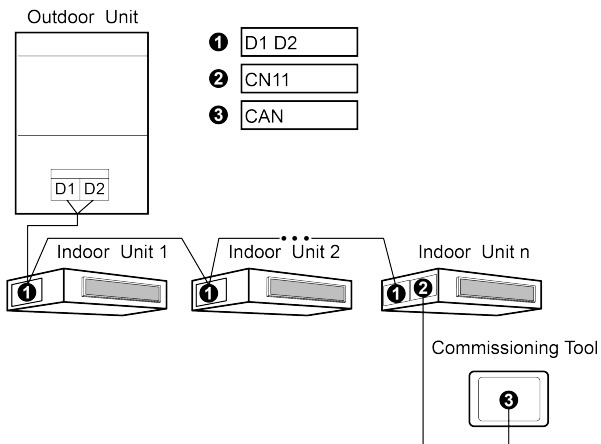

Fig.2.3 CAN Communication Connected with IDU Network
- (1) This product is applicable to multi VRF units, connectable with IDU network or ODU network.
- (2) If this product is to be connected with IDU network, connect according to Fig.2.3. This product can connect with any one indoor unit in series. During connection, one end of the 4-core long connection wire is connected with